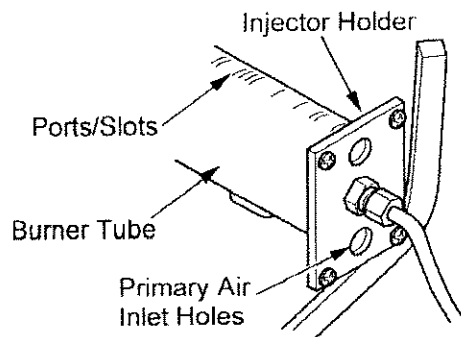

Figure 47 - Injector Holder On Outlet Burner Tube
2. Inspect burner, pilot, and primary air inlet holes on injector holder for dust and dirt (see Figure 47, page 27).